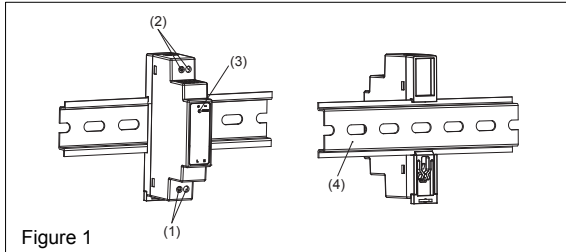

Figure 1
2. Device description (Fig. 1)
5.1. Input connection (Fig. 1 (1), Fig. 5)
Use L and N connections of input terminal connector (see Fig. 1 (1)) to establish the 100-240 VAC connection.
5.2. Output connection (Fig. 1 (2))
The green LED DC OK displays correct function of the output (Fig. 1 (3)). The device has a short circuit and overload protection and an over voltage protection limited to < 34.8 VDC.